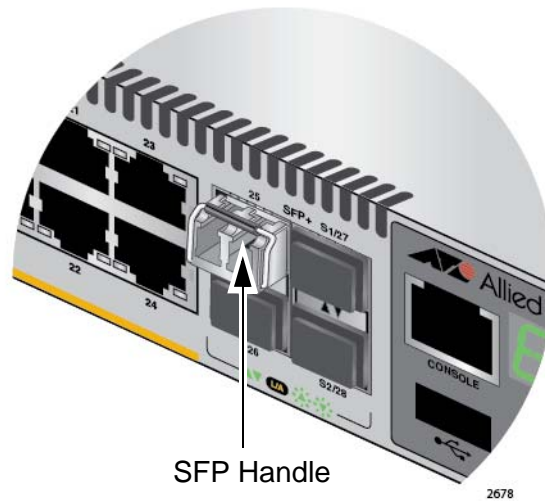

Figure 50. Positioning the SFP or SFP+ Handle in the Upright Position
6. Verify the position of the handle on the SFP transceiver. If the transceiver is in a top slot, the handle should be in the upright position, as shown in Figure 50 on page 97. If the transceiver is in a bottom slot, the handle should be in the down position.